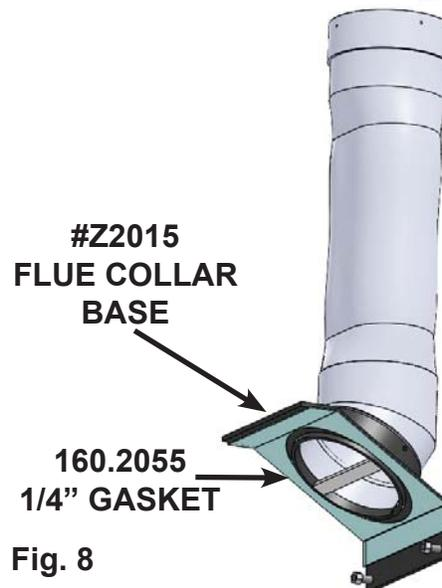

Fig. 8
1. For ease of install; once chimney piping is completely installed and attached to the provided flue collar, leave flue collar hanging roughly 2 feet above the floor of the fireplace. This will enable unit to be pushed back into the fireplace opening without interference and allow for an easy grab through the bypass door opening to install. Ensure 1/4" gasket is intact on the bottom of the flue collar assembly before installation. (Fig. 8)